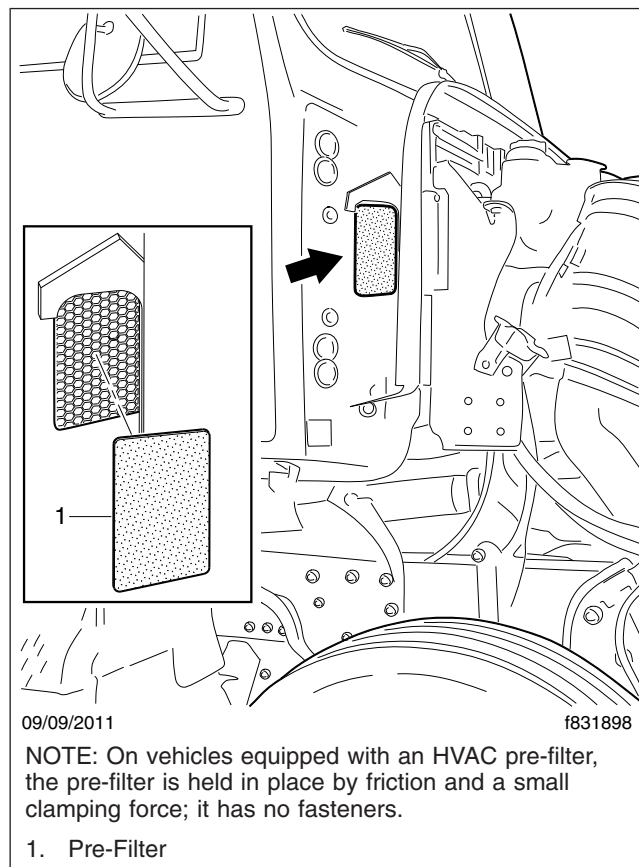

Fig. 4, HVAC Pre-Filter
3. Remove the pre-filter mounted at the HVAC intake. See Fig. 4.